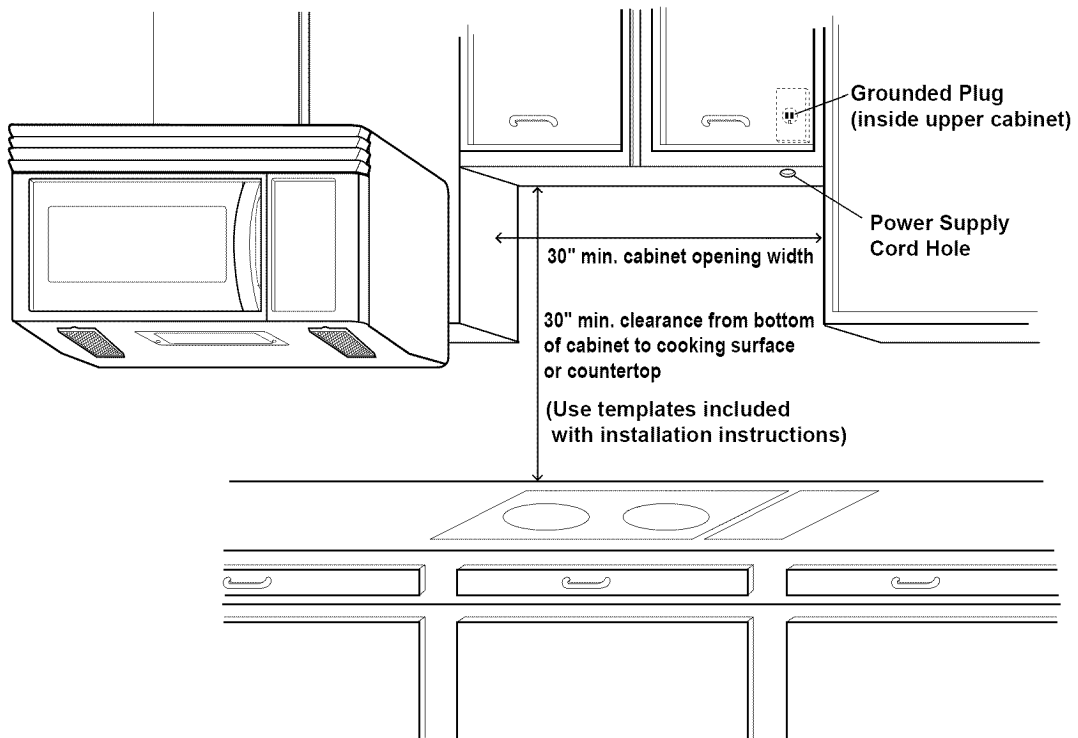

Figure 4
- BE SURE you have enough space. See **Figure 4** below for minimum vertical and horizontal clearance.
1. Locate the grounded electric outlet for this oven in the cabinet above the oven, as shown in **Figure 4 Detail**.
2. You will cut the power-supply-cord hole (shown in **Figure 4 Detail**) later when you prepare the wall and upper cabinet in Step 4.